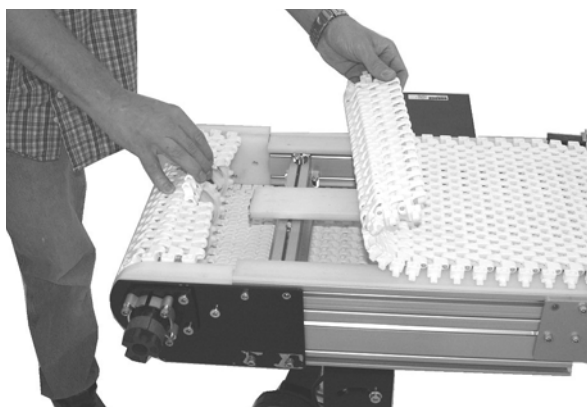

Figure 14
6. Bring the ends of the belt together (**Figure 14**).